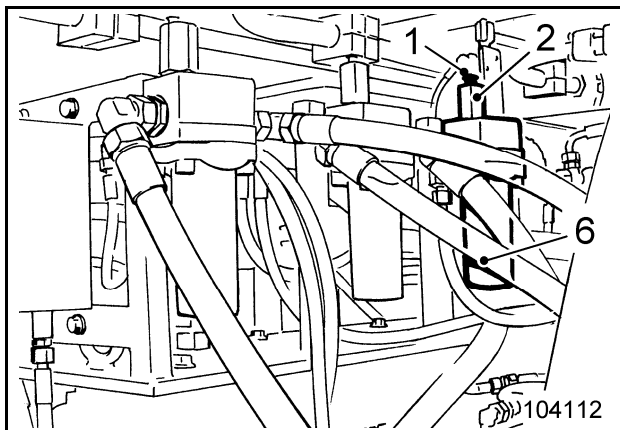
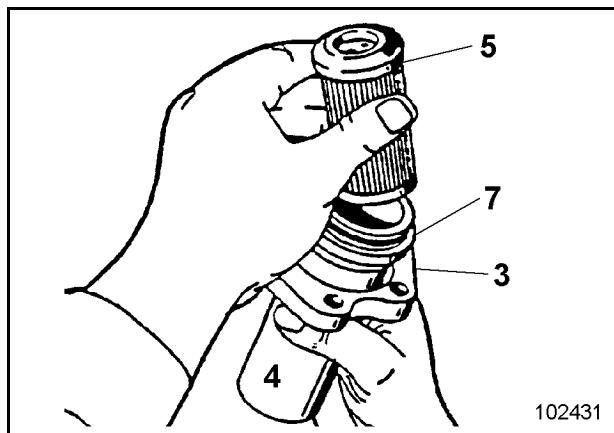

Fig. 3-83:
Fig. 3-84:
Check filter tell-tales (1, Fig. 3-83:) regularly - at operating temperature - for indication of contamination.
- Remove flange (3, Fig. 3-84:).
- Pour oil out of filter pot (4) and remove filter element (5).
- Clean filter head (6, Fig. 3-83:) and filter pot (4). Check o-ring (7, Fig. 3-84:) for damage; change if necessary.